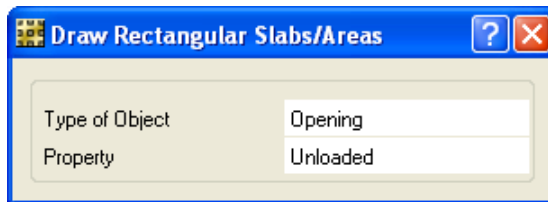

Figure 76 Draw Rectangular Slabs/Areas form
- A. Click the **Draw menu > Draw Rectangular Slabs/Areas** command to display the Draw Rectangular Slabs/Areas form shown in Figure 76.